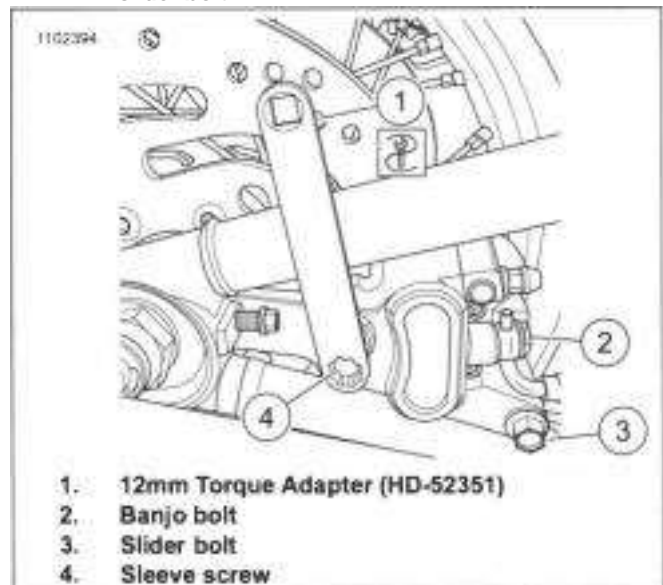

Figure 3-47. 12mm Torque Adapter (HD-52351)
- See Figure 3-47. Using torque adapter.